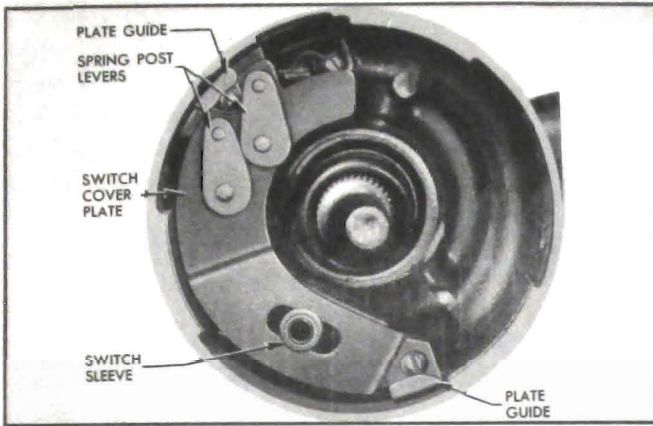

Figure 10-105—Spring Post Levers, Plate Guides, Sleeve, Switch Cover Plate
6. Remove switch sleeve. Lift out the two spring post levers, which have flat washers on lower pins between levers and switch cover plate. Remove plate guides. See figure 10-105.
11. Install plate guides with lock washers on screws. Install spring post levers with flat washers between levers and switch cover. Install switch sleeve. See figure 10-105.